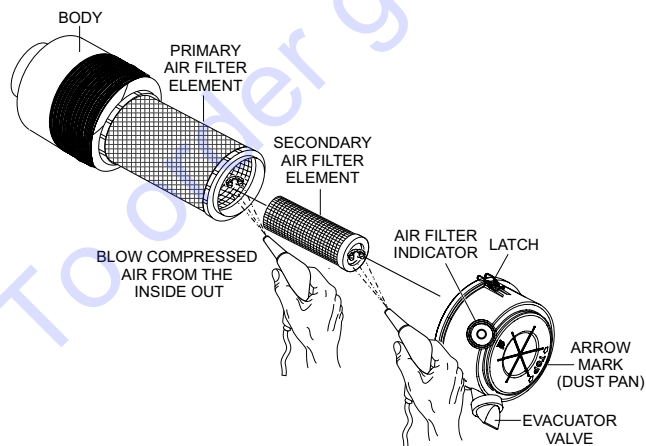

Figure 60. Air Cleaner
Every 250 hours: Remove the air cleaner element (Figure 60) and clean the heavy-duty paper element with a light spray of compressed air. Replace the air cleaner as needed.
1. Release the latches (Figure 60) that secure the cover to the air cleaner body.
6. To clean the primary element (paper air filter) as referenced in Figure 60, tap the filter element several times on a hard surface to remove dirt, or blow compressed air, not to exceed 30 psi (207 kPa, 2.1 kgf/cm²), through the filter element from the inside out.